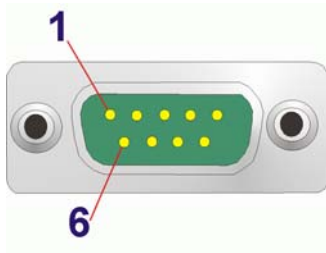

Figure 3-36: Serial Port Pinouts
- CN Pinouts:** See **Table 3-35** and **Figure 3-36**